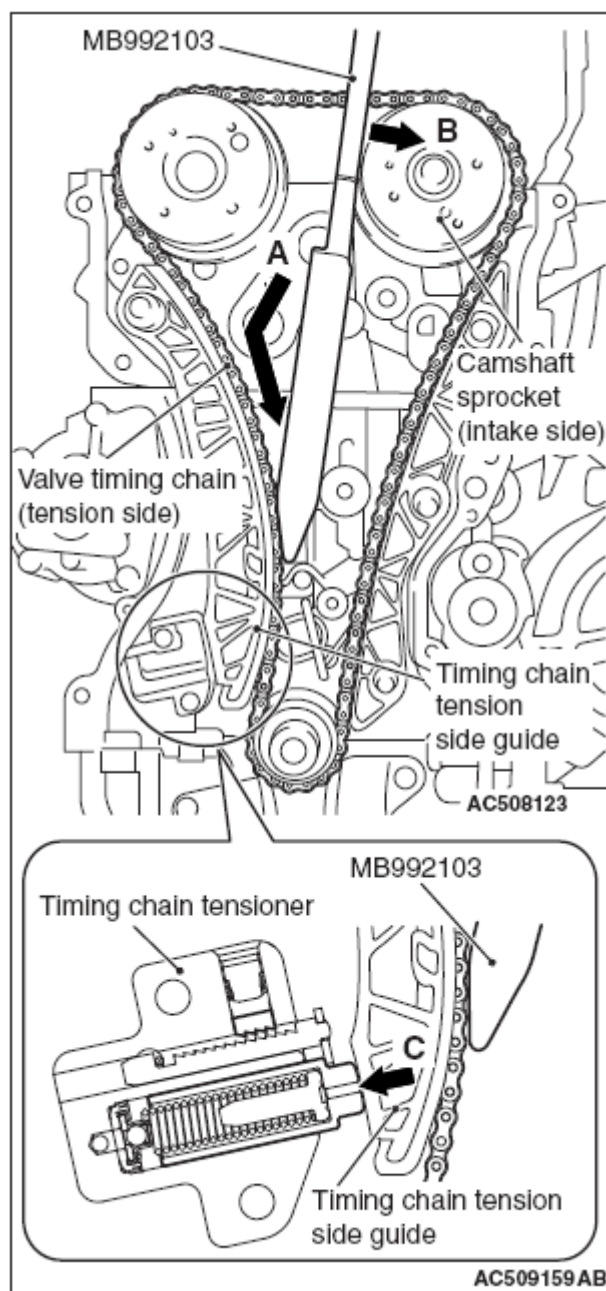

Fig. 32: Inserting Special Tool MB992103
2. With the timing chain tensioner unlocked, insert special tool MB992103 inside the timing chain case assembly along the tension side of the timing chain until the insertion guide line aligns with the upper surface of the timing chain case assembly ("A" in Fig. 32.)
NOTE: With the timing chain tensioner unlocked, insert the special tool MB992103 along the tension side of the timing chain, according to the special tool MB992103 top shape. The special tool MB992103 can be inserted smoothly to the position where the special tool MB992103 insertion guide line aligns with the timing chain case assembly top surface ("B" in Fig. 32), and the spread timing chain tension side guide can be held ("C" in Fig. 32.)